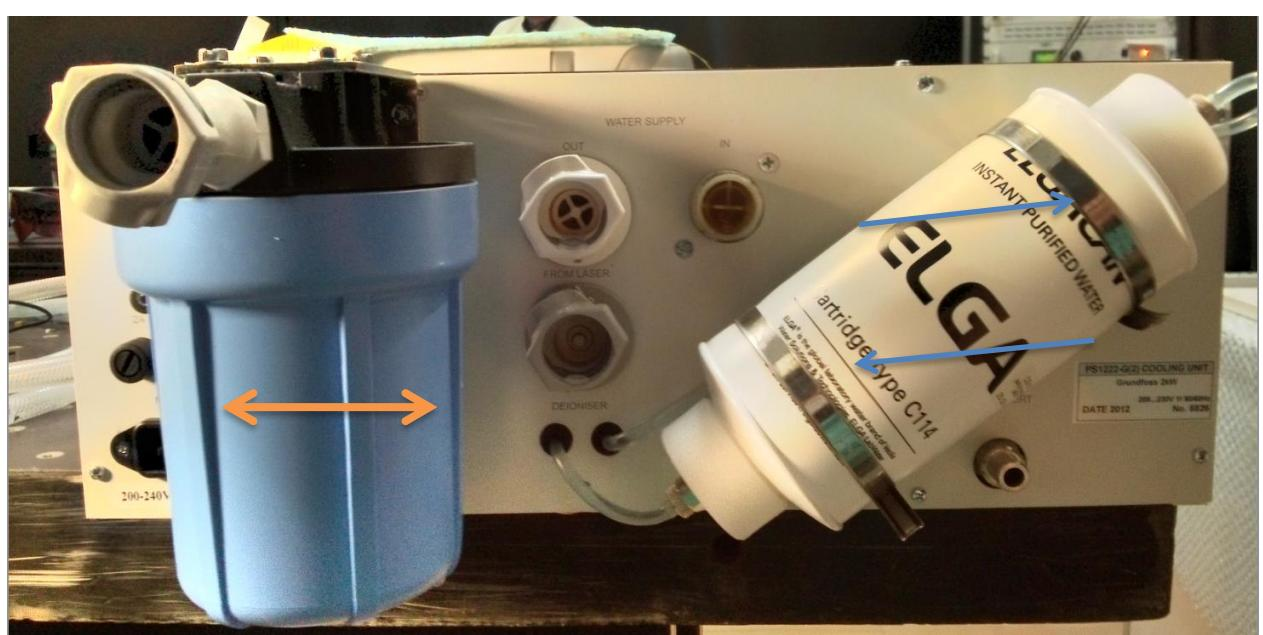

Figure 50 Back view of the cooling unit
4. Rotate blue cap of particle filter in order to remove it (Figure 50).
7. Release two screws to untighten the cartridge DI filter (Figure 50, right)